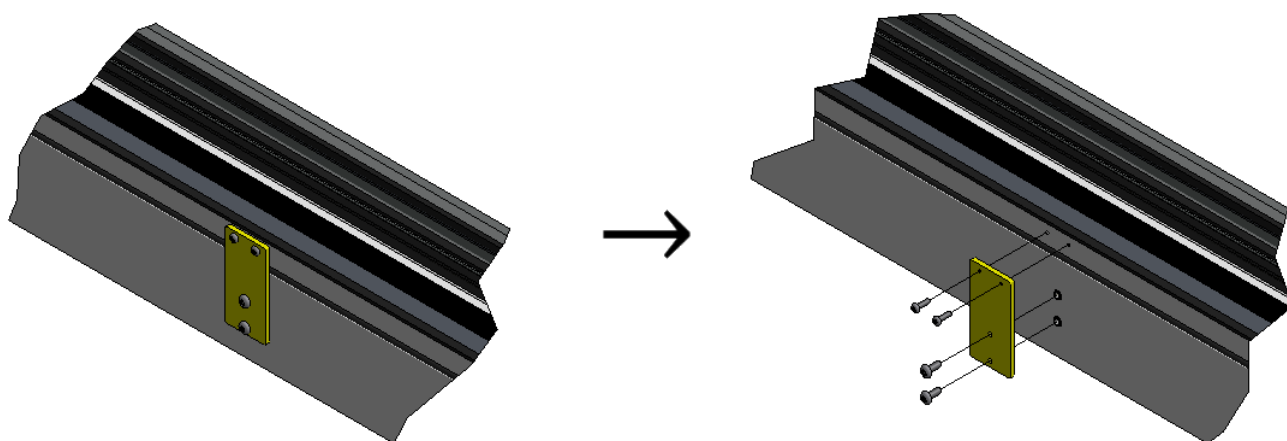

Fig. 14a – Transportation bracket removed
- Working from inside the building, remove the yellow transportation plate from the cill (fig. 14a)